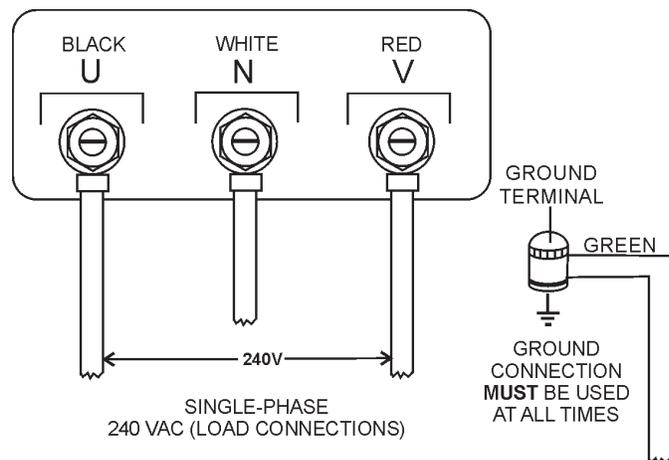

Figure 16. Output Terminal Lugs 240 VAC Single Phase Connections
1. Connect the load wires to the **Output Terminal Lugs** as shown in (Figure 16)